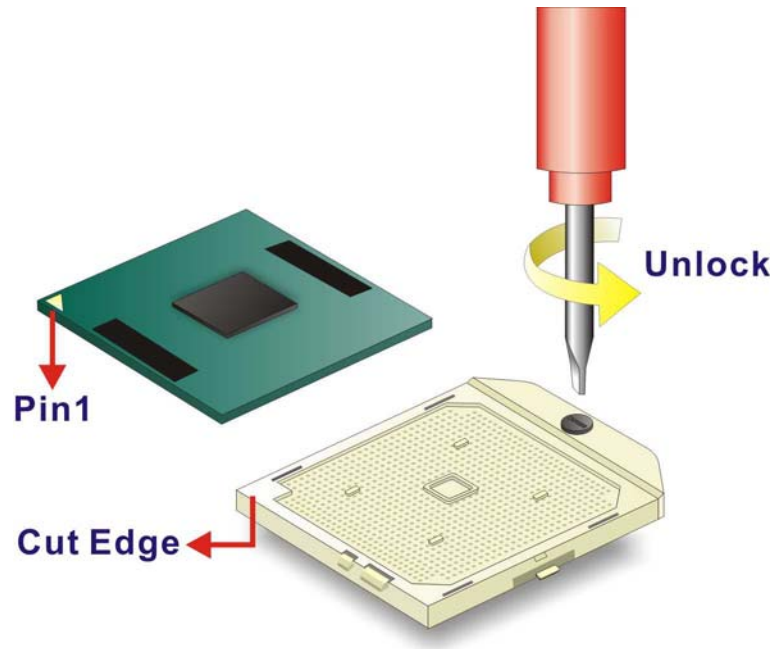

Figure 5-1: Make sure the CPU socket retention screw is unlocked
Step 1: Unlock the CPU retention screw. When shipped, the retention screw of the CPU socket should be in the unlocked position. If it is not in the unlocked position, use a screwdriver to unlock the screw. See **Figure 5-1**.
Step 4: Correctly position the CPU. Match the Pin 1 mark with the cut edge on the CPU socket. See **Figure 5-1**.